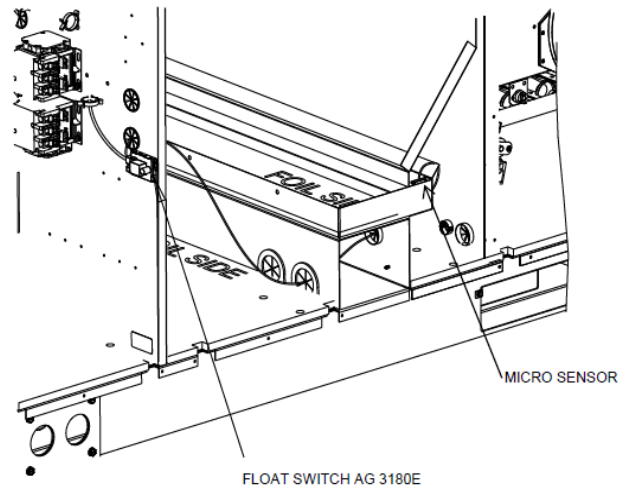

FIGURE 23
- Route the 2 way connector from the control box through the bushing underneath the coil support as shown in Figure 23.